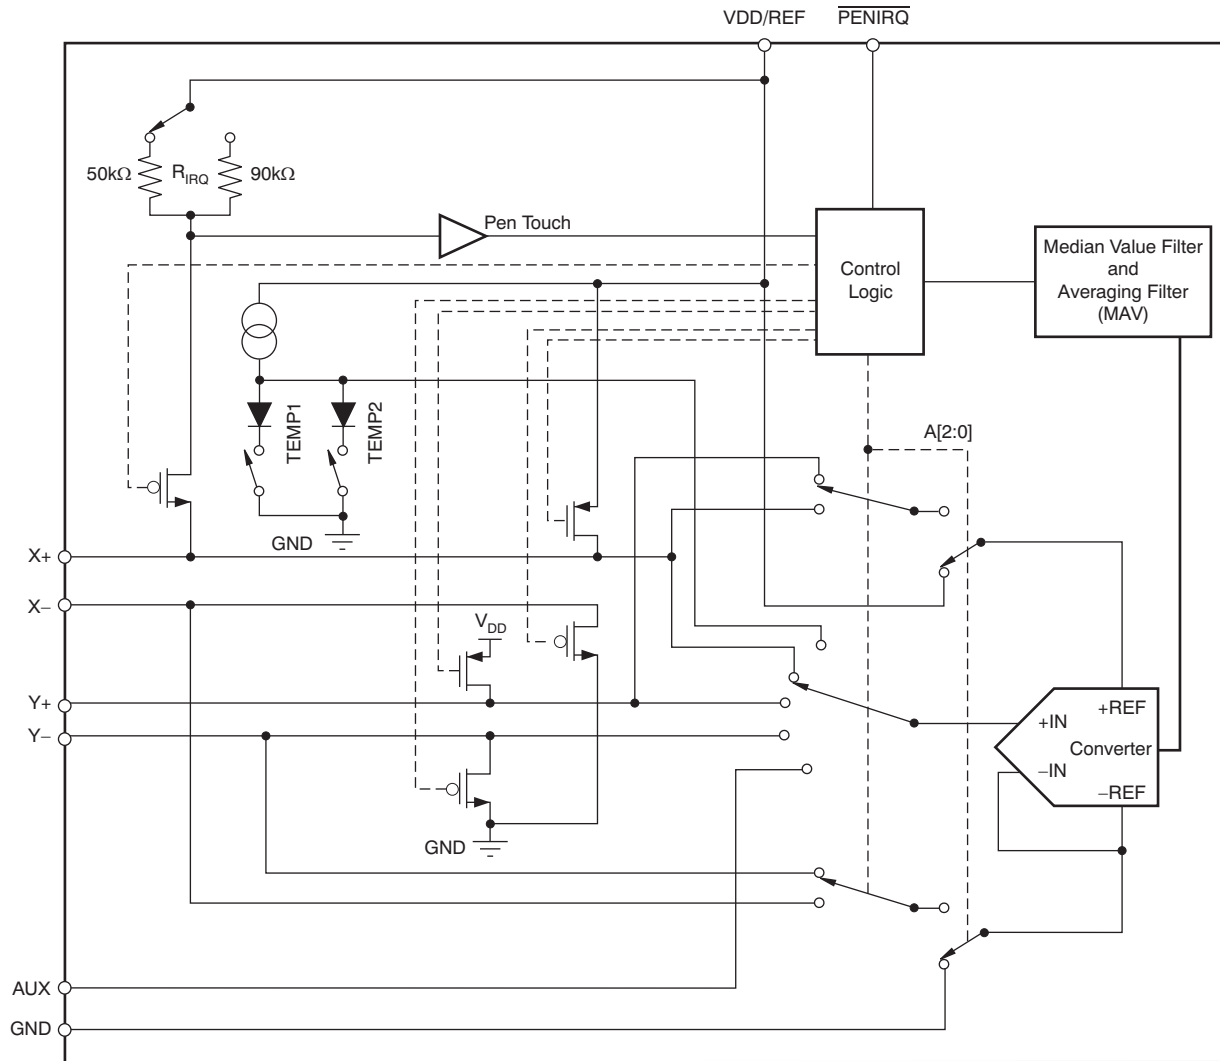

Figure 24. Analog Input Section (Simplified Diagram)
Figure 24 shows the analog inputs of the TSC2008. The analog inputs (X, Y, and Z touch panel coordinates, chip temperature and auxiliary inputs) are provided via a multiplexer to the Successive Approximation Register (SAR) analog-to-digital converter (ADC). The A/D architecture is based on capacitive redistribution architecture, which inherently includes a sample-and-hold function.
**Initiate Start**—The first bit is the start bit (S), and must always be high to initiate the start of a user-controllable control byte. When the start bit = '0', it is reserved for factory use.
**Addressing and Command Decoding**—The next three bits in the control byte following the start bit are three addressing bits A[2:0] used to select the active input channel(s) of the input multiplexer (see Table 4 and Figure 24), enable the touch screen drivers, select the reference inputs, or decode other commands.
(1) Bit 2 is the SER/DFR control bit for all commands except for the setup command.
(2) Use the setup command to configure the touch screen controller or access the software reset function.
**SER/DFR**—The SER/DFR bit controls the reference mode: either single-ended (high) or differential (low). The differential mode is also referred to as the ratiometric conversion mode and is preferred for X-Position, Y-Position, and Pressure-Touch measurements for optimum performance. The reference is derived from the voltage at the switch drivers, which is almost the same as the voltage to the touch screen. In this case, a reference voltage is not needed because the reference voltage to the A/D converter is the same as the voltage across the touch screen. In single-ended mode, the converter reference voltage is always the difference between the VREF and GND pins (see Table 4 and Figure 24 through Figure 26, for further information).